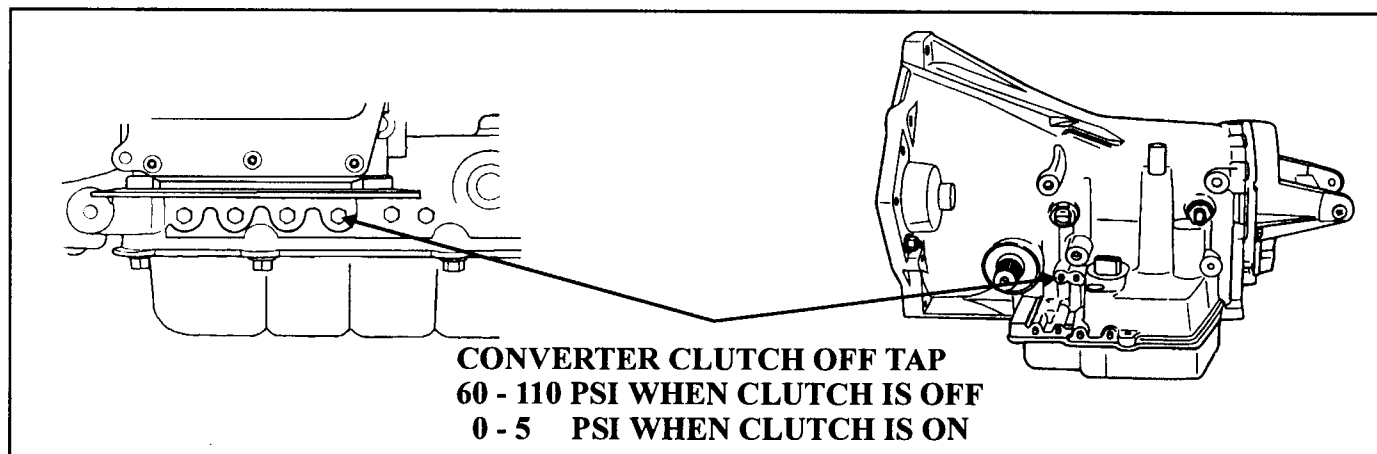

Figure 50
- Record and clear all codes with a scanner via the diagnostic BUS connector. Use the scanner to then observe both engine RPM and Turbine Shaft RPM. Install a pressure gauge onto the converter clutch off tap (See Figure 50). Take the vehicle for a road test. When the scanner indicates full lock up, both the engine RPM and Turbine Shaft RPM should read the same. The pressure gauge should also drop to 5 psi or less. The following results would indicate the different possibilities.